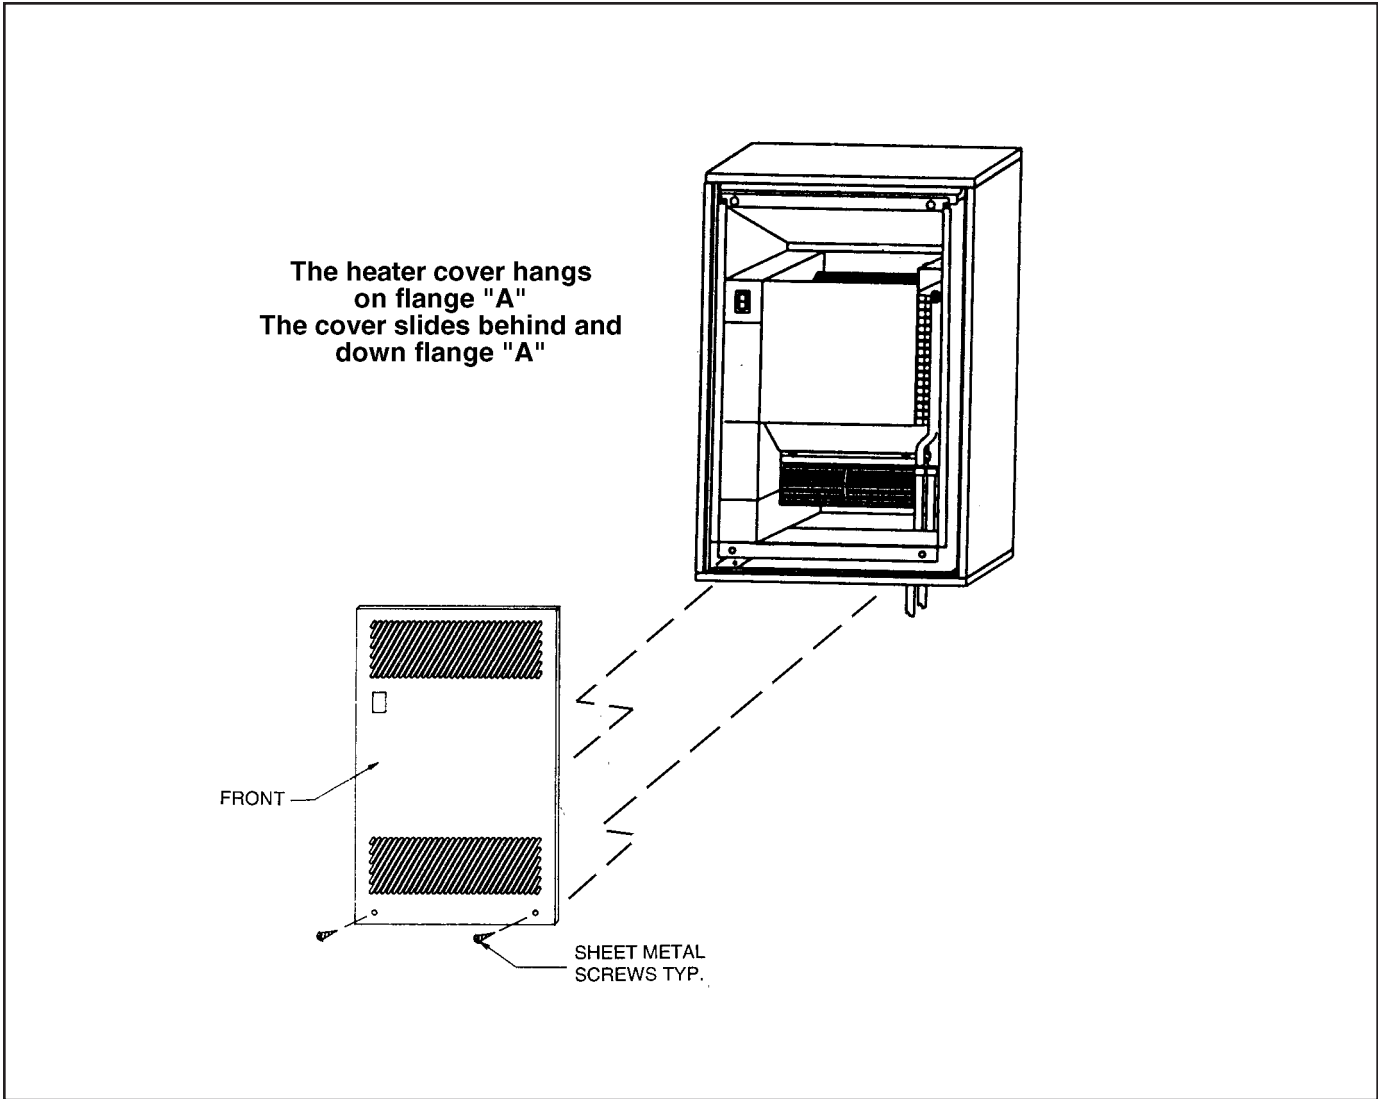

Figure 7.
7. Fasten front panel in place with (2) 8 x 1/2" sheet metal screws provided. See Fig. 7.